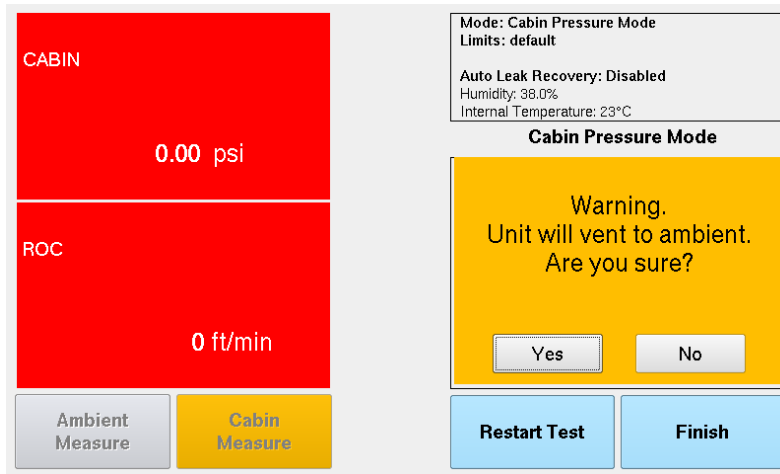

Figure G. 14 Cabin Pressure Mode – Step 2
- Once the test is completed, touch the Finish button to exit the Cabin Pressure Mode. A warning screen is displayed with the message below (Fig. G. 14). Touch “Yes” and the unit will vent to ambient.